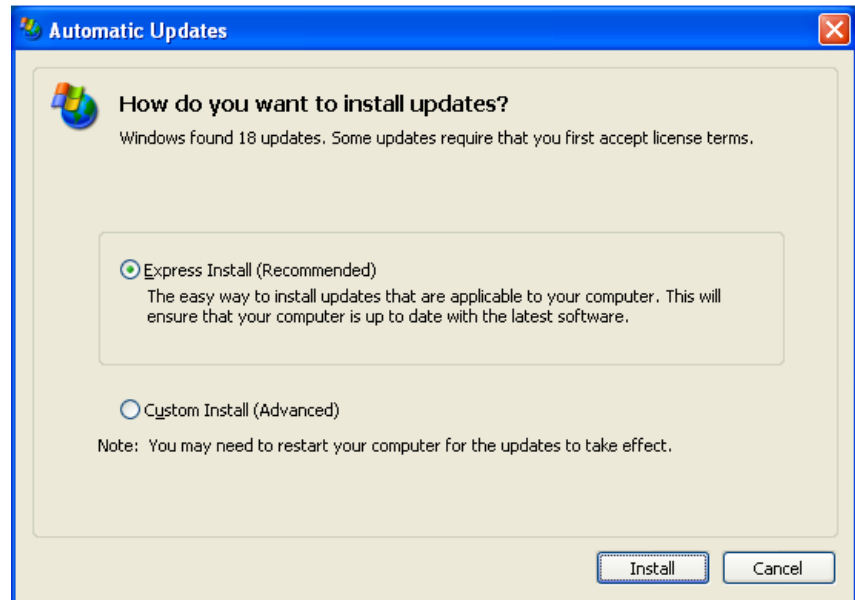

Figure D-4 Automatic Updates Window (How do you want to install updates?)
9. An AUTOMATIC UPDATES window will be displayed prompting for an installation method as shown in Figure D-4 below.